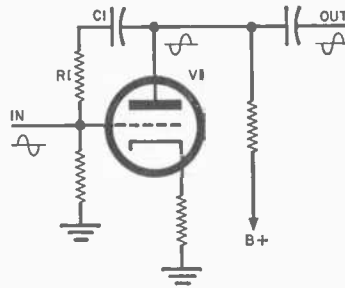

Fig. 1.  $R_1$  and  $C_1$  comprise a negative feedback circuit such as is commonly found in hi-fi amplifiers.
For comparison purposes, Figs. 1 and 2 show circuits using the two kinds of feedback. Figure 1 is a negative feedback hook-up, such as is found in hi-fi amplifiers, and Fig. 2 is the type of positive feedback circuit used in a number of commercial audio oscillators.
**Feedback Phasing.** Referring again to Fig. 1, we see that through the normal action of triode  $V_1$  the phase of the input